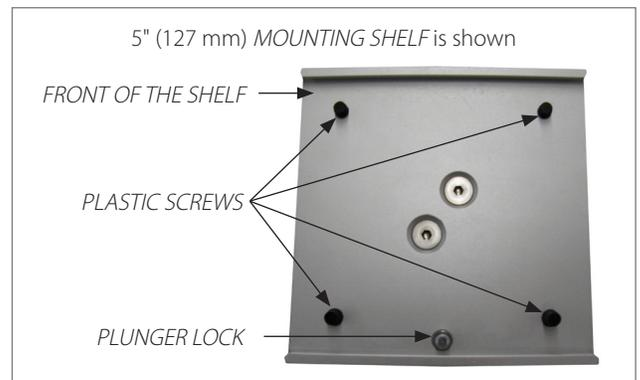

Figure 4
3. Release the plunger and tighten the plastic screws by hand (**Figure 4**).